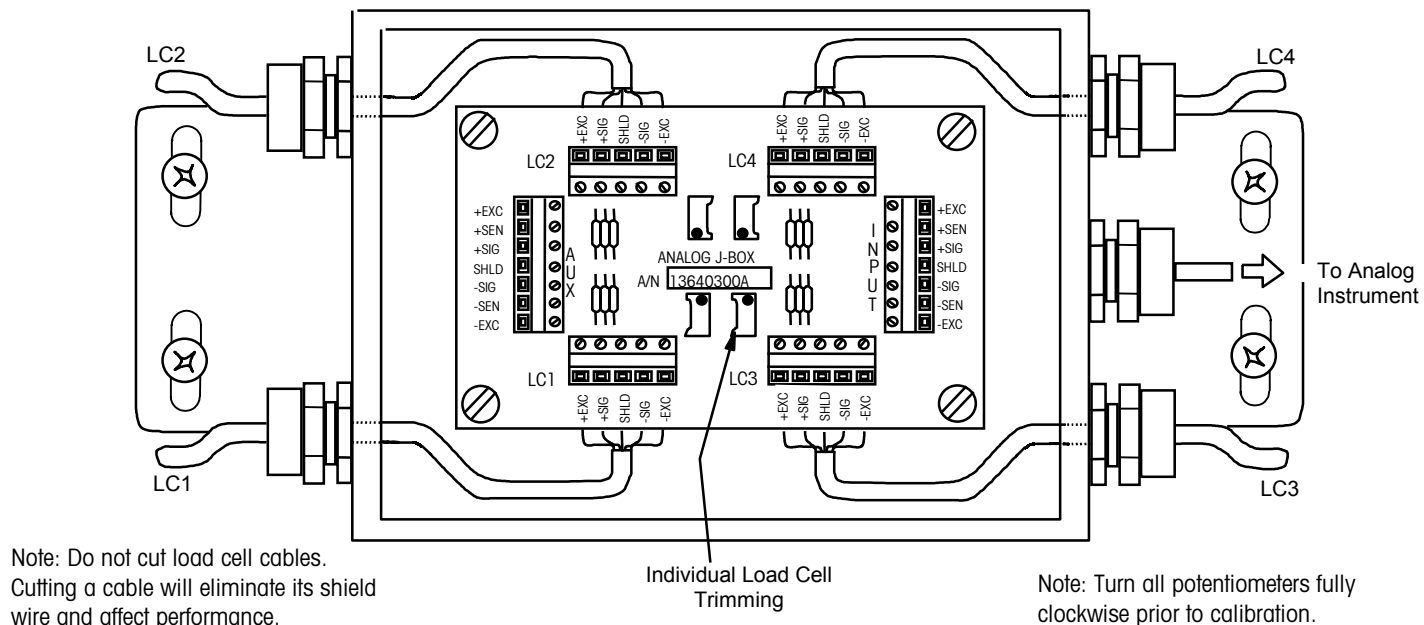
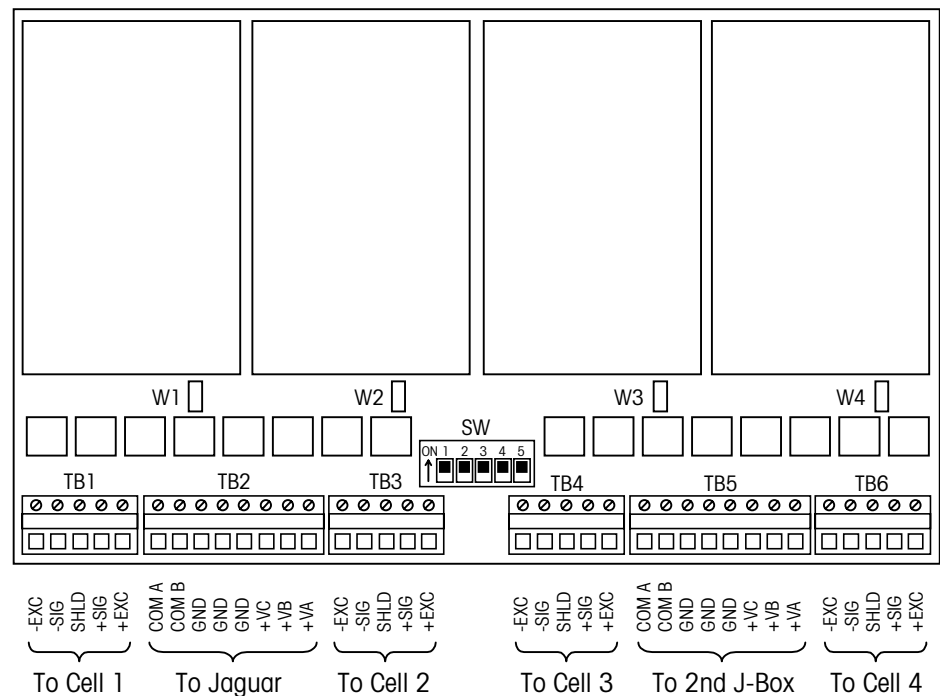

Figure 3-3: Analog Junction Box Detail
Figure 3-4: RAAD Junction Box Detail
Model 0970 weigh modules can be used with an analog junction box for summing the load cell outputs. Only analog-compatible indicators work with an analog junction box. See Figure 3-3 and Table 3-1 for cable connections.
Model 0970 weigh modules can be used with a RAAD junction box for summing load cell outputs. A JAGUAR® or JAGXTREME™ indicator must be used with the RAAD junction box. The indicator serves as the host for the RAAD junction box, allowing you to use the indicator's keypad to adjust scale parameters. See Figure 3-4 and Table 3-2 for cable connections. Load cell wiring for RAAD mode is the same as for analog mode.
1. Wire the home run cable to the PCB according to Figure 3-3 for Analog, Figure 3-4 for RAAD, or Figure 3-5 for IDNet.